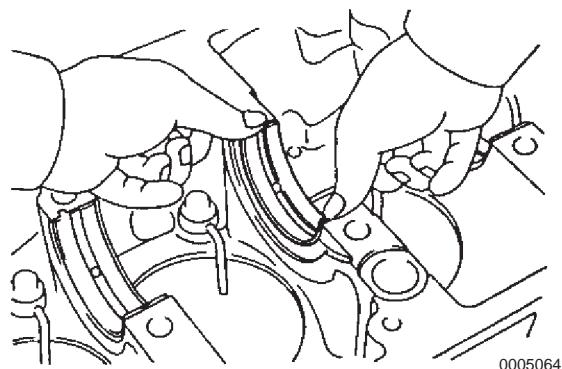

Figure 5-141
2. Align the main bearing claws with the grooves in the cylinder block and press in seven upper bearings (Figure 5-141).